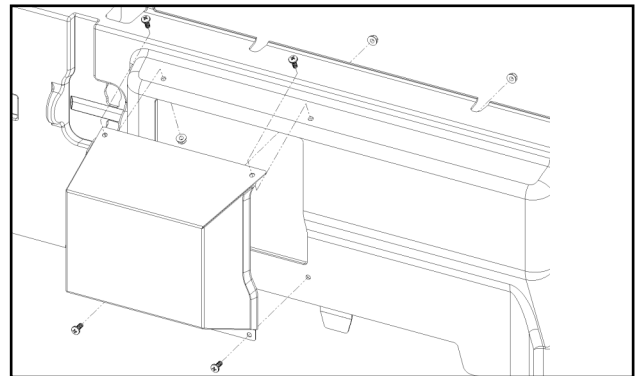

Fig. 2.8 (Install Alternator Cover, DXT)
- 2.8 Install alternator cover to rear seat cover per fig. 2.8.